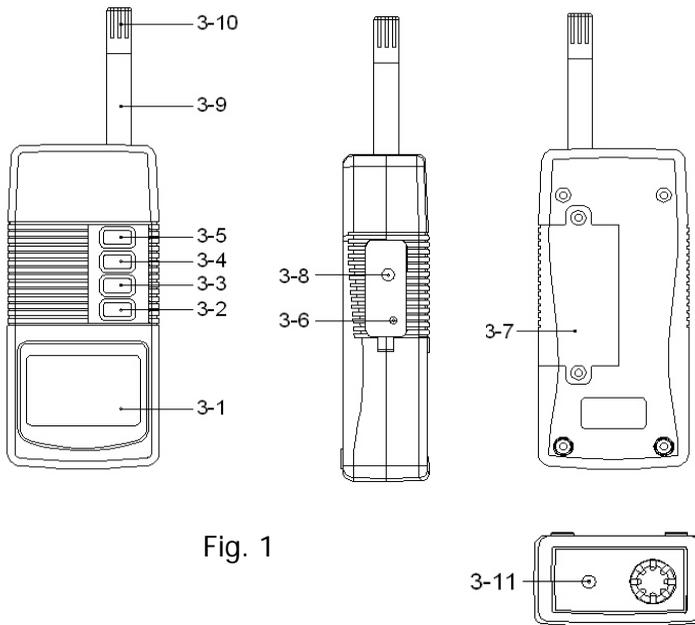

Fig. 1
- 1) Power on the meter by pressing the " Power Button " ( 3-2, Fig. 1 ), the LCD shows the unit " %RH " & " °C " at the same time and measured value will show on the display ( upper display is Humidity value, the lower display is the temperature value ) .
The procedures of " Dew point measurement " are same as the above " 4-1 Humidity and Temperature measurement " except select the " Dew point " function by pressing the " Function Button " ( 3-5, Fig. 1 ) once, the LCD will show the unit " DEW " & " °C ( or °F ) . The upper display show the Dew point value, the lower display show the temperature value.
During the measurement, press the " Hold Button " ( 3-3, Fig. 1 ) once will hold the measured value & the LCD will display a " HOLD " symbol.
- \* The data record function records the maximum and minimum readings. Press the " REC Button " ( 3-4, Fig. 1 ) once to start the Data Record function.
- a) Press the " REC Button " ( 3-4, Fig. 1 ) once, the " REC MAX. " symbol along with the maximum value will appear on the display.
To delete the maximum value, just press the " Hold Button " ( 3-3, Fig. 1 ) once. The display will show " REC " and execute the memory function continuously.
- b) Press the " REC Button " ( 3-4, Fig. 1 ) again, the " REC MIN. " symbol along with the minimum value will appear on the display.
To delete the minimum value, just press the " Hold Button " ( 3-3, Fig. 1 ) once, then the display will show the " REC " symbol only and execute the memory function continuously.
- a. Hold the " Set Button " ( 3-6, Fig. 1 ) at least two seconds until the lower display show " COde ", then release the " Set Button ", the upper display will show " 1000 ".
After display show " COde 1000 ", push the " Enter Button " ( 3-4, Fig. 1 ) once will go to the following b. procedures.
\* If push the " ESC Button " ( 3-3, Fig. 1 ) will escape the selecting function and return to the normal measuring display.
- b. One by one to press the " Set Button " ( 3-6, Fig. 1 ) once a while to select the two main function that show on the lower display as :
Use the " Set Button " to select the main function to " °F ", then one by one to press the " Function Button " ( 3-5, Fig. 1 ) a while will determine the default Temp. unit to °C or °F
After the function is determined, press the " Enter Button " ( 3-4, Fig. 1 ) to confirm and save the selection data into memory IC permanently. Press the " Esc Button " ( 3-3, Fig. 1 ) will revert to normal display screen.
Use the " Set Button " to select the main function to " OFF ", then one by one to press the " Function Button " ( 3-5, Fig. 1 ) a while will determine the default the power management system is Auto Power Off enable or disable.
After the function is determined, press the " Enter Button " ( 3-4, Fig. 1 ) to save the selection function into memory IC permanently. Press the " Esc Button " ( 3-3, Fig. 1 ) will revert to normal display screen.
The instrument has RS232 PC serial interface via a 3.5 mm terminal ( 3-8, Fig. 1 ).
- 2) Slide the " Battery Cover " ( 3-7, Fig. 1 ) away from the instrument and remove the battery.